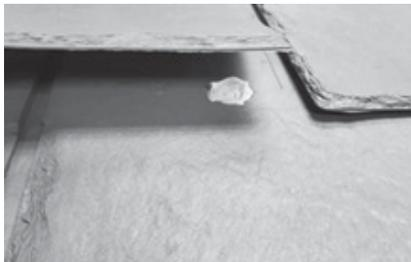

Figure 1
3. Apply Dow Corning 790 Sealant under the bottom corners of the tile to be adhered. A ¼" thick daub about the size of a quarter will spread out when the tiles are pushed together, so it must be placed so as not to show on the finished repair. (see Figure 1)